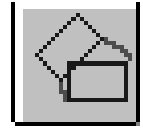

Figure 7-8
- Numerically from the dialog box that appears when you click on the Object Parameters tool (Figure 7-8).
To rotate an object using the dialog box, click on the Object parameters tool (Figure 7-8). Refer to Figure 7-10 for instructions.